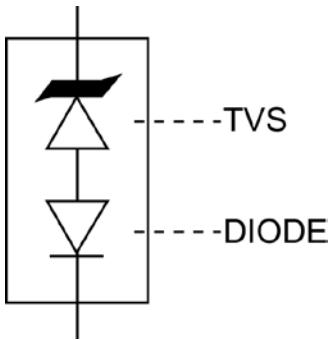
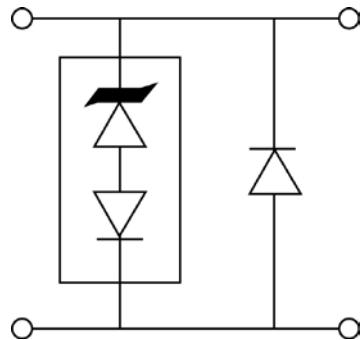

Figure 4
Figure 5
- With impulse repetition rate (duty factor) of 0.01 % max. TVS devices are not typically used for dc power dissipation and are instead operated ≤ V_{WM} (rated standoff voltage) except for transients that briefly drive the device into avalanche breakdown (V_(BR) to V_C region) of the TVS element. Also see Figures 5 and 6 for further protection details in rated peak pulse power for unidirectional and bidirectional configurations respectively.
The TVS low capacitance device configuration is shown in Figure 4. As a further option for unidirectional applications, an additional low capacitance rectifier diode may be used in parallel in the same polarity direction as the TVS as shown in Figure 5. In applications where random high voltage transients occur, this will prevent reverse transients from damaging the internal low capacitance rectifier diode and also provide a low voltage conducting direction. The added rectifier diode should be of similar low capacitance and also have a higher reverse voltage rating than the TVS clamping voltage V_C . The Microsemi recommended rectifier part number is the "SMBJLCR60" for the application in Figure 5. If using two (2) low capacitance TVS devices in anti-parallel for bidirectional applications, this added protective feature for both directions (including the reverse of each rectifier diode) is also provided. The unidirectional and bidirectional configurations in Figure 5 and 6 will both result in twice the capacitance of Figure 4.